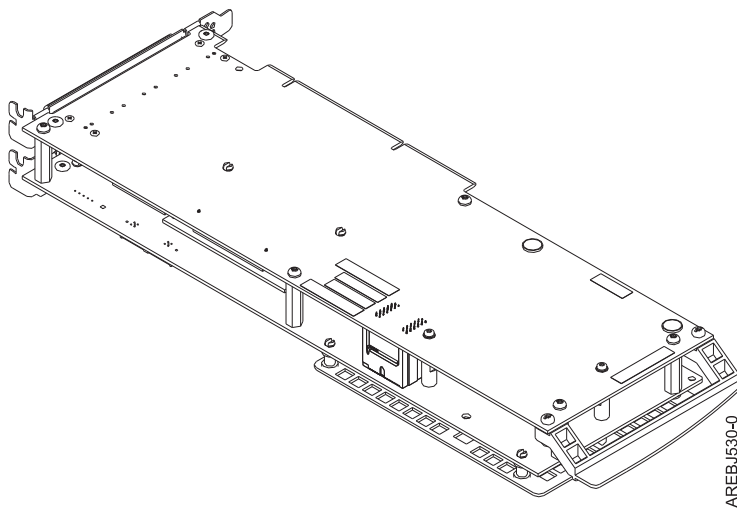

Figure 31. 572F/575C card set adapter
2. Place the 572F/575C card set adapter on an ESD protective surface and orient it as shown in Figure 31.